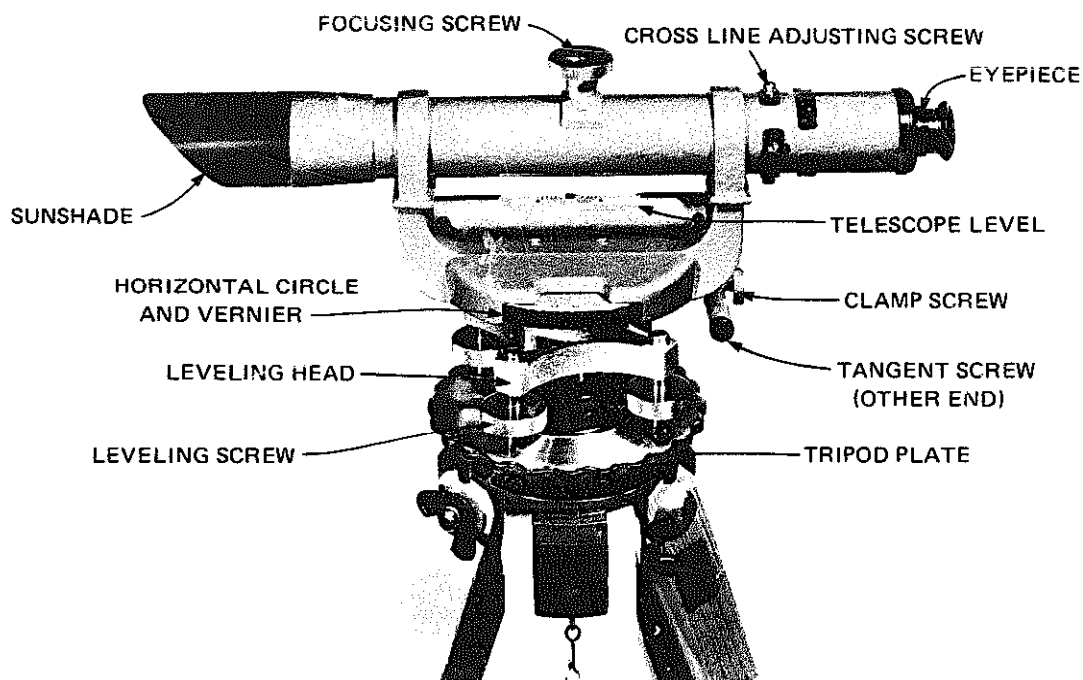

Fig. 5-25 The builders' level
The parts of a builder's level are shown in figures 5-25 and 5-26. A tripod is also shown attached to the trivet. The tripod is not an integral part of the level, rather, it is an attachment which serves as an adjustable base for the level.
- b. Adjust the focus by rotating the eyepiece focusing ring by the knurling at the very end of the telescope (see figure 5-25) until the cross lines appear clear-cut. Once the eyepiece focus has been set, it need not be changed.